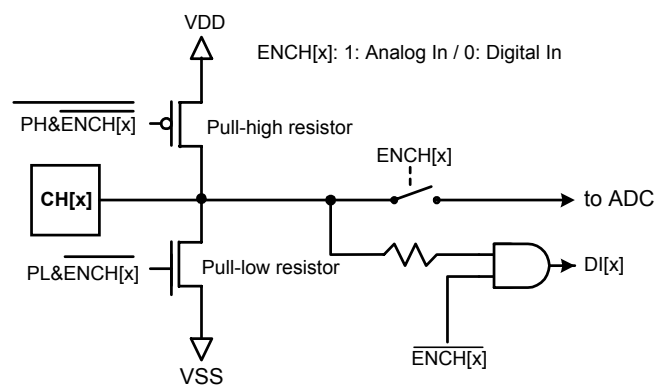

Figure-11 Circuit diagram of the Input Channel PAD
- (1) If any channel is programmed to be analog input mode, then the corresponding internal signal, $ENCH[x]=1$. As in Figure-11, pull-high and pull-low are disabled. And the path to digital input is blocked. All digital reading operation of this channel will get the result “0”.
- (2) If any channel is programmed to digital input mode, then the corresponding internal signal, $ENCH[x]=0$. As in Figure-11, the path to ADC is removed.
- (3) While in digital input mode, this input port can be configured to be floating, weak pull-up, or pull-down by setting the control register PH and PL , where $PH\&PL=1$ is forbidden. The pull-up or pull-low resistor are both around $500\text{K}\Omega@3\text{v}$.
- (4) The default status (digital/analog, pull up/down) of all the channels are un-know after power on, so initialize each channel to define a correct state should be done after power on.
- (5) Mode of each channel ($ENCH[x]$) can be set by command 001.